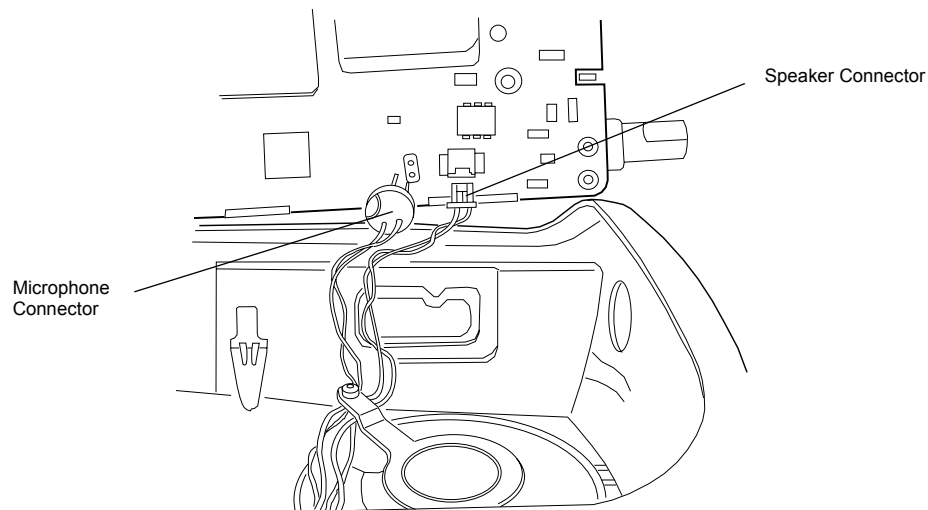

Figure 6-5. Microphone and Speaker Connections
8. Rotate the chassis counterclockwise out of the housing and position next to the housing. Take care not to damage the speaker and microphone wires that are still connected to the chassis (Figure 6-5).